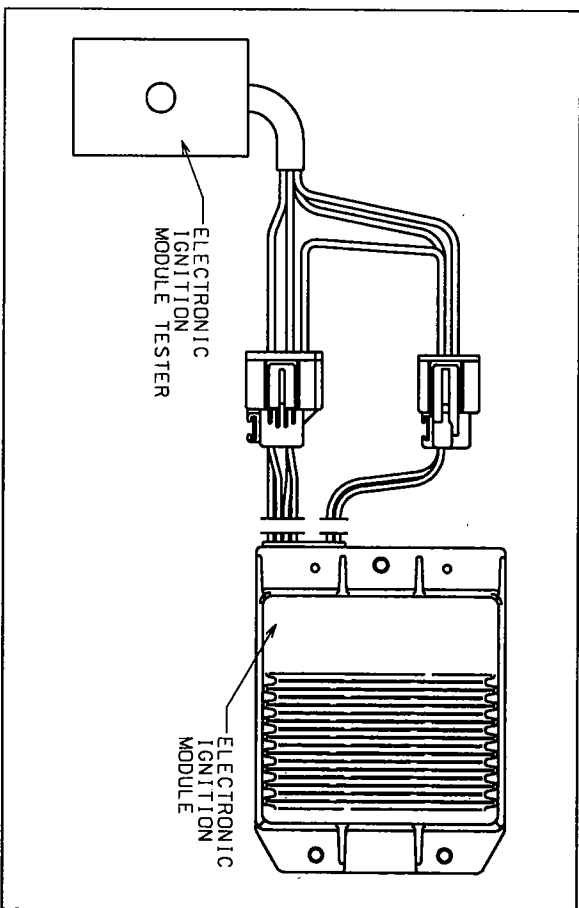
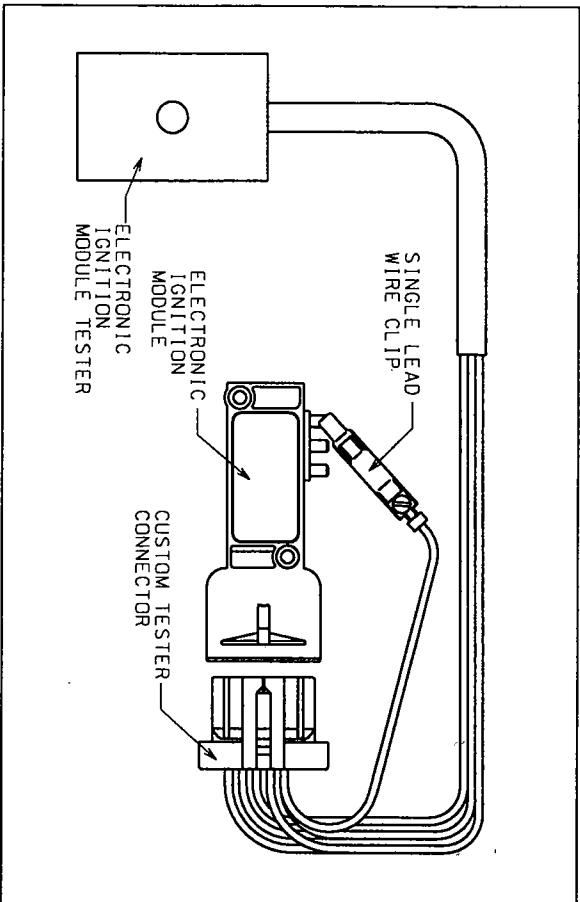

Fig. 13 (Typical example: Wells #F102)
Fig. 14
There are two types of Ford Electronic Ignition Modules. One type is housed in a large metal "case" (Fig. 13) that has a colored plastic grommet where the wires exit the module. It is mounted on the fender well or fire wall. The other smaller plastic module is called a "TFI" or "Thick Film Integrated" design (Fig. 14) which may be mounted on the distributor itself or in various other remote locations.
1. To test the grommet type, connect the tester leads to the module leads in the sequence red-to-red, green-to-green, white-to-white, and black-to-black (Fig. 13).
When testing the TFI type, simply plug the custom tester connector into the module (Fig. 14). The indicator light should be either off or just lit. Touch the tester's single lead clip to the appropriate test connection for the module you are testing. Refer to the tester manufacturer's instructions for the correct connection. Not all test connections are the same, depending on the year, make, and model on which you're working. A properly functioning module will cause the indicator light to flash each time the connection is made.